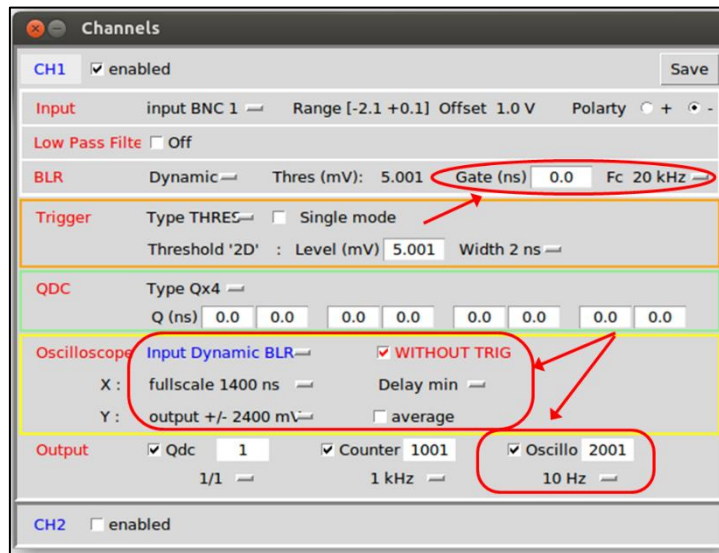

Figure 62: Oscilloscope tunings to inspect Dynamic BLR signal
You may tune the oscilloscope parameters as shown on Figure 62, i.e.:
Step 4: Fill in first 0 ns in the “Gate” parameter, and select 20 kHz for the cut-frequency as shown on Figure 62.